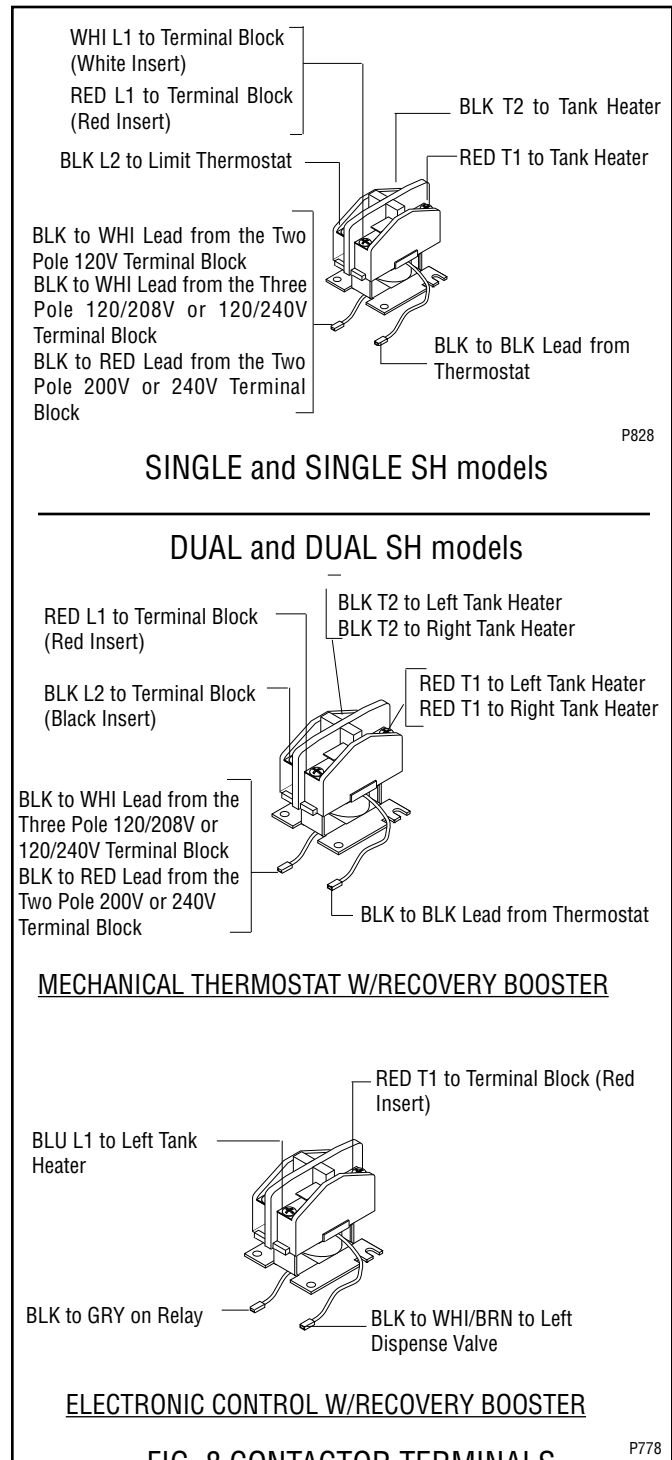

FIG. 8 CONTACTOR TERMINALS
4. Refer to Fig. 8 when reconnecting the wires.